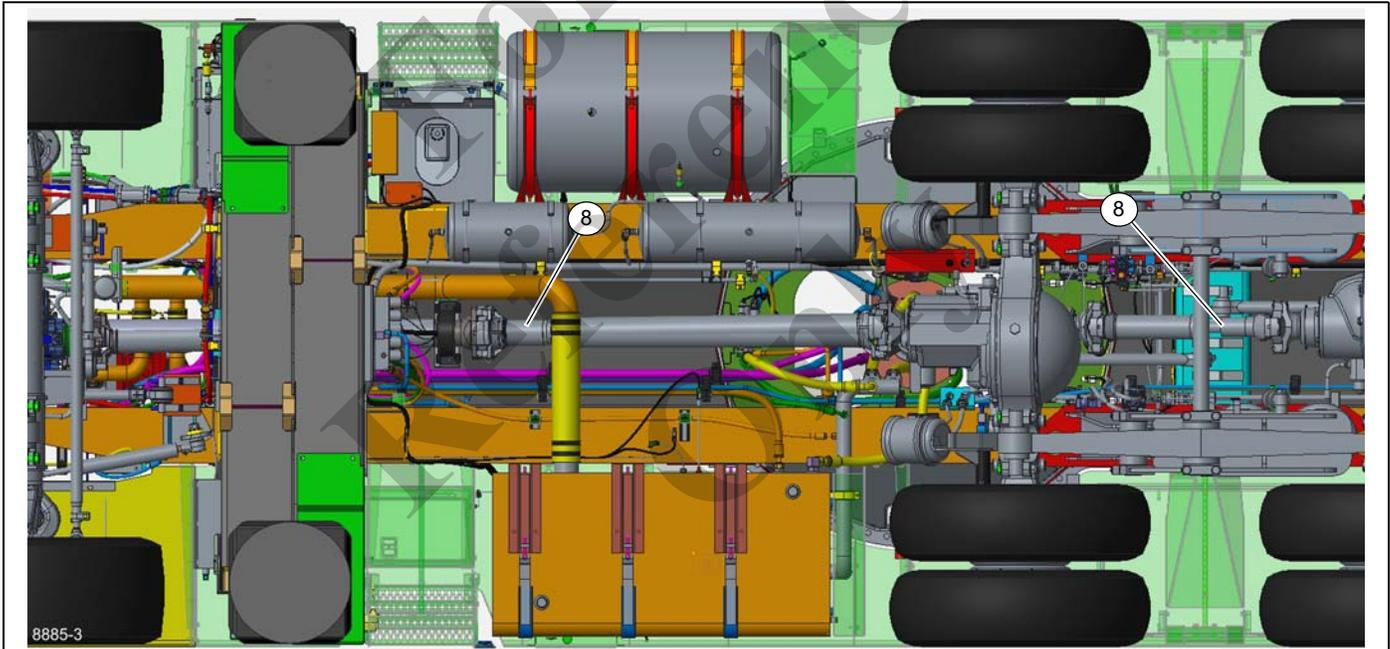

FIGURE 9-3
3. Press the manual up-shift button (1) until the gear display shows "3" (2, Figure 9-3).